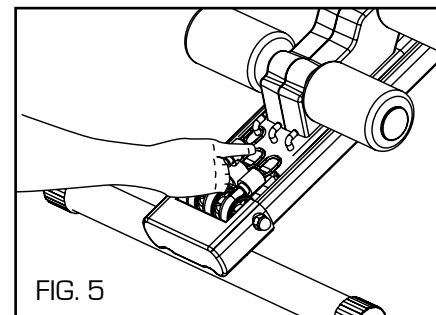

FIG. 5
1. Insert the long Foam Roller Pipe through the top hole of the Carriage Assembly (the hole closest to the Seat) (see FIG. 5).